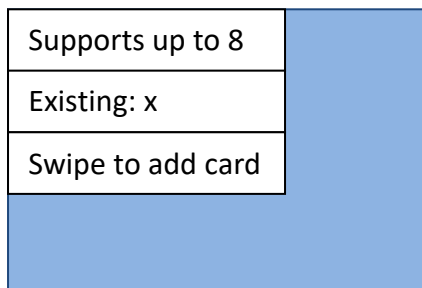

Figure 31 - Add Card screen
- 2) To add a card for activating the charging, select '1. Add Card' and wait for the screen shown in Figure 31 to appear.